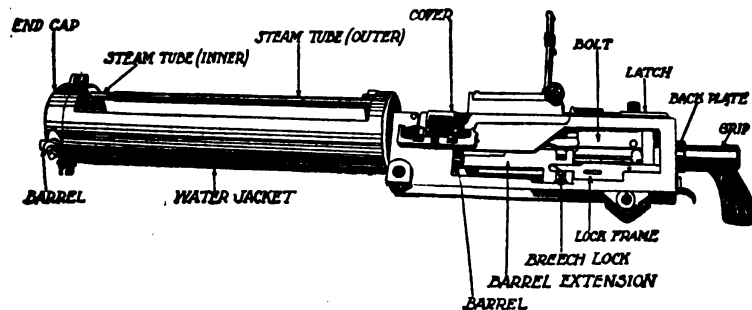

FIGURE 182.—Browning, caliber .30 machine gun, M1917.
*Q.* Point out and state the uses of the important parts shown in figure 182. *A.* See figure 182.